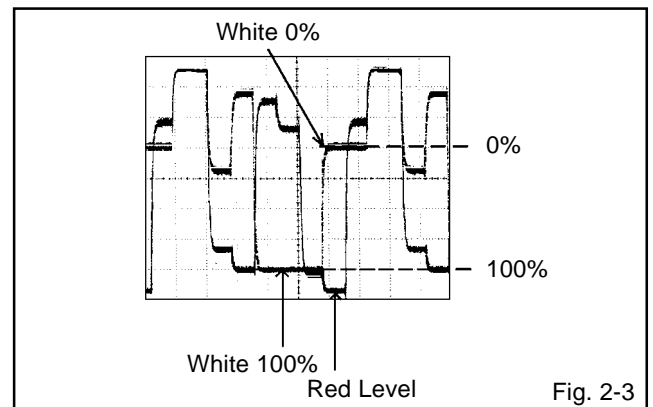

Fig. 2-3
8. Press the VOL. UP/DOWN button on the remote control until the red color level is adjusted to $120 \pm 10\%$ of the white level. **(Refer to Fig. 2-3)**